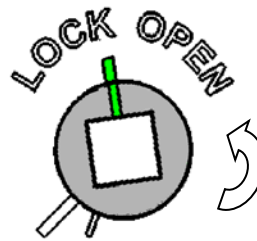

figure 2
3. Turn cam counterclockwise until lock opens. The cam should be lined up with the "LOCK OPEN" line on the cover (see figure 2).
- Turn cam counterclockwise until lock opens. The cam should be lined up with the "LOCK OPEN" line on the cover (see figure 2).